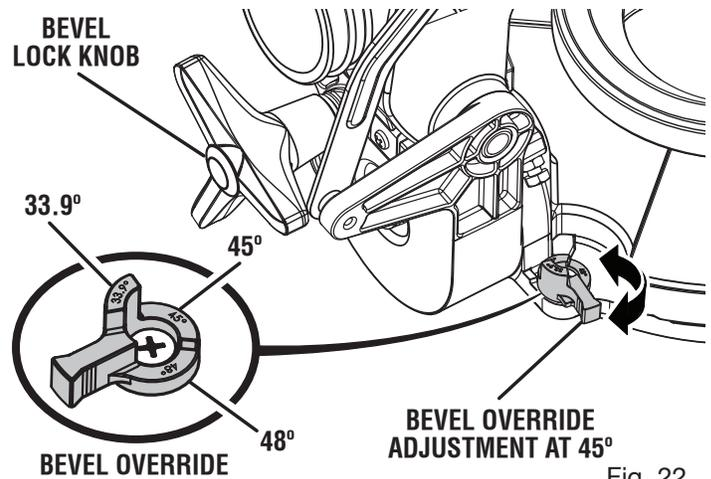

Fig. 22
- If the top or bottom of the saw blade angles away from the square as shown in figures 22 and 23, adjustments are needed.
NOTE: Use the bevel override to locate 33.9°, 45°, and 48° bevel angles. See Figure 22.